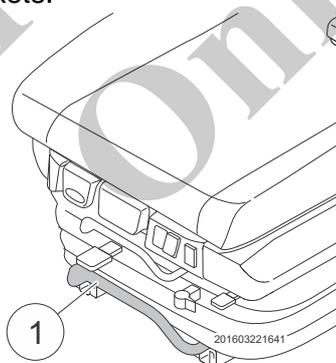

Fig. 60 Adjusting the seat position with the brackets
- 1 Pull the handle (Fig. 60/1) up and push the driver seat with the brackets back or forwards.